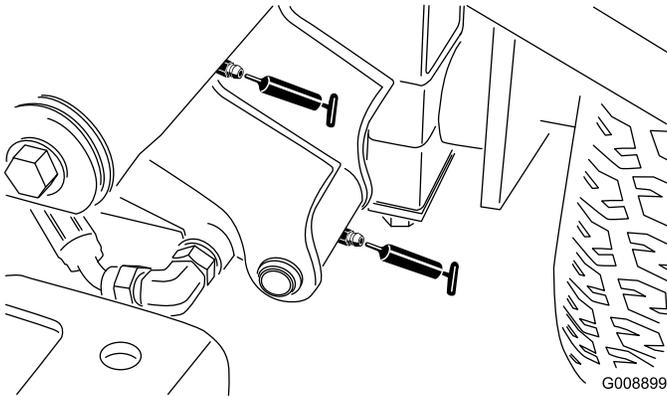

Figure 33
- 2 left, front lift-arm pivots and lift cylinder (Figure 33)